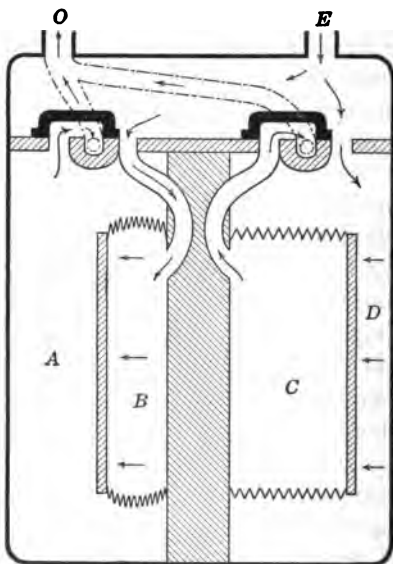

FIG. 65. — A gas meter.
73. The Gas Meter. The gas meter is a metal box divided into four compartments by flexible diaphragms. By a slide valve these compartments are alternately connected with the city supply and with the pipe to the consumer. While the gas in one compartment is being used, the other compartment is being filled. See Fig. 65. The movement of the diaphragms not only operates the slide valve but it also controls a clock-work device which records the